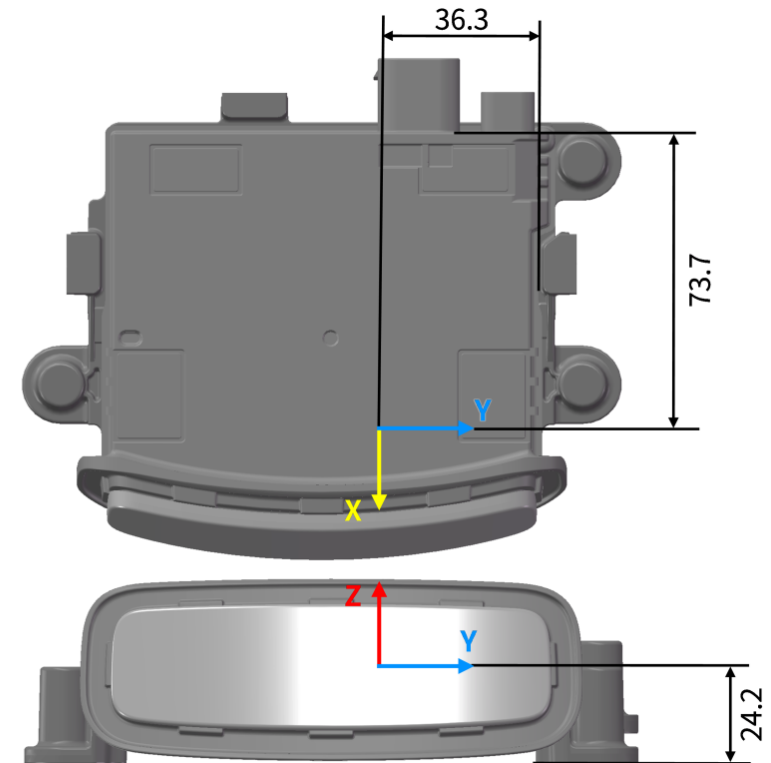

Figure 5. Origin of coordinates (unit: mm)
- The origin is shown in Figure 5. All measurements are relative to the origin.